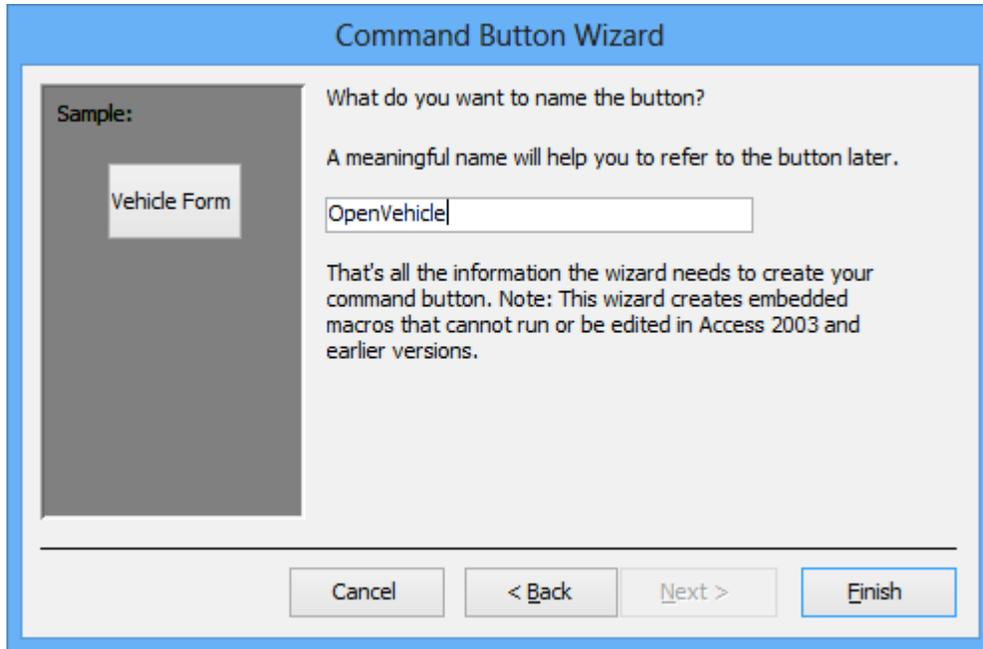
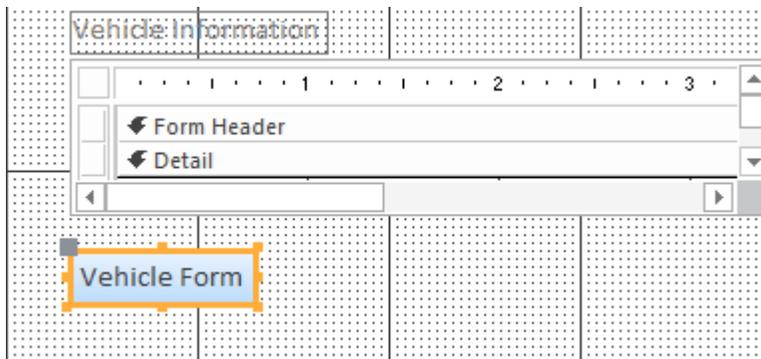

Figure 24: Final Window of the Command Button Wizard
Figure 25: Customer Form with a New Command Button
14. Name the Command Button: This final wizard window (Figure 24) asks you to name the command button. Type “OpenVehicle” and click **Finish**. A new command button appears on the *Customer* form (Figure 25). If the text in the button appears too light, change the *Font Color* property for the button to “Text Dark”.